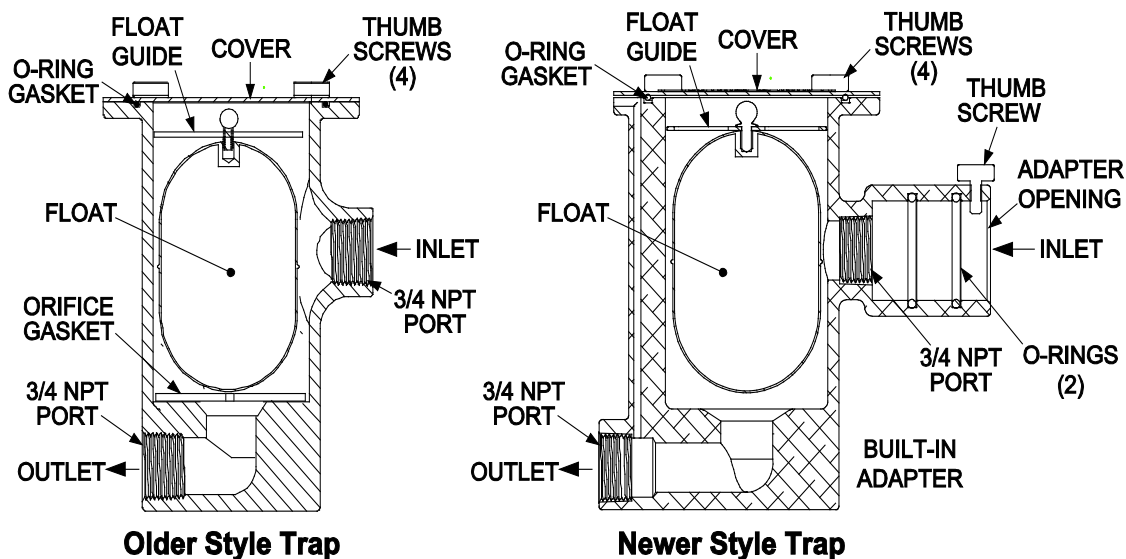

Figure 10. Condensate Trap P/N 24060
There are two slightly different types of external condensate traps (P/N **24060**) that may be used at your site; an older style without an inlet adapter, or a newer style with a built-in inlet adapter (see Figure 10). Maintenance is the same, except that the newer style does not need an orifice gasket (Step 6).
For Benchmark 3.0 boilers, the external condensate trap (P/N **24060**) is attached to the connecting manifold drain pipe using a special adapter (Figure 10). This trap should be disconnected from the connecting manifold and serviced as follows:
2. Remove the connections on the inlet and outlet sides of the condensate trap, as shown in Figure 10.
3. Refer to Figure 10 and loosen the four (4) thumb screws securing the cover on the condensate trap and then remove the cover.